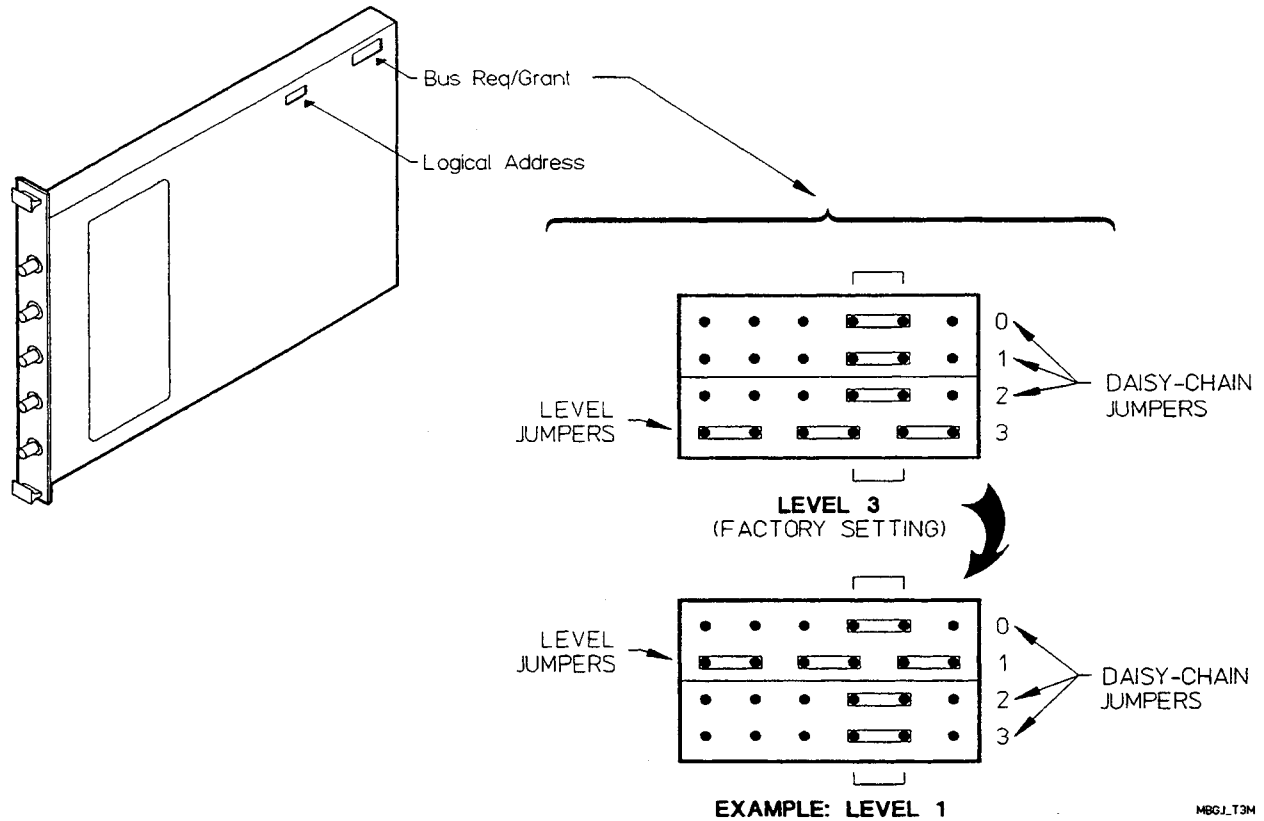

Figure 2-3. Bus Grant Jumper Location and Selection
1. Locate the bus grant/request jumpers located on the top-right side of the counter module adjacent to the P1 connector. See *Figure 2-3* for the jumper location and level selection.
2. Move the jumpers to the new bus grant/request position. See *Figure 2-3* for the individual jumper priority positions. The top right side of the figure shows the correct factory setting (priority level 3). The bottom right side shows how to change the jumpers for priority level 1.